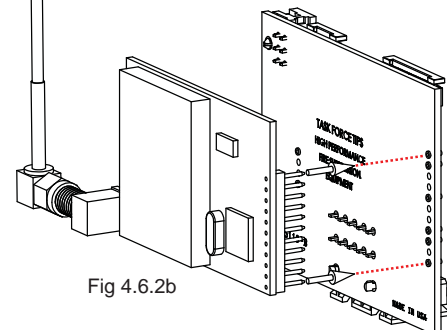

Fig 4.6.2b
- 3) Plug radio board into communication board. (Fig 4.6.2b) Be careful to line up pins.